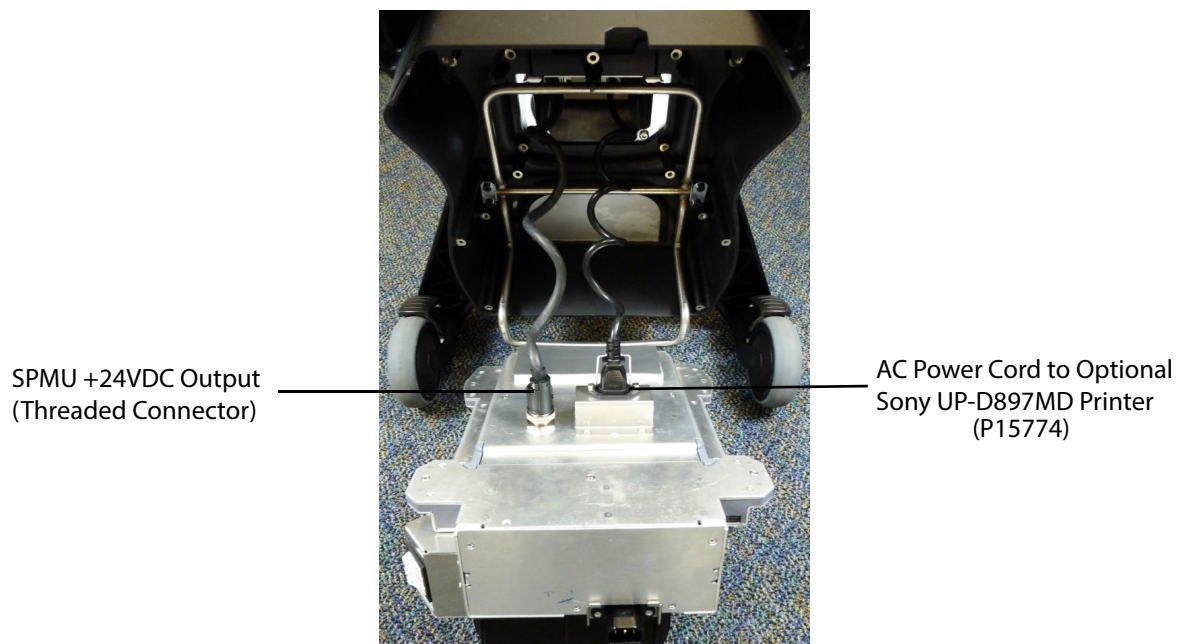

Figure 6.15 SPMU Power Connectors
- 16 Un-thread the retaining ring of the DC power cable plug and remove from the SPMU DC output socket. The SPMU can now be removed from the stand. Refer to Figure 6.15 on page 45